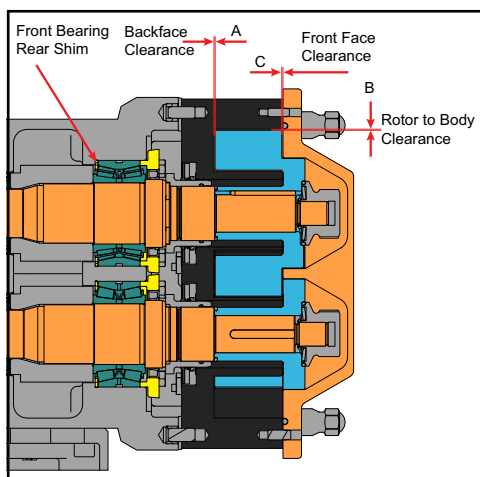

Figure 70 - Clearance Measurements
2. With feeler gauges, measure the rotor backface clearance (Figure 70, item A), through the port or from the front.
3. Measure the rotor front face clearance (Figure 70, item C).
4. Measure the rotor to body clearance (Figure 70, item B).